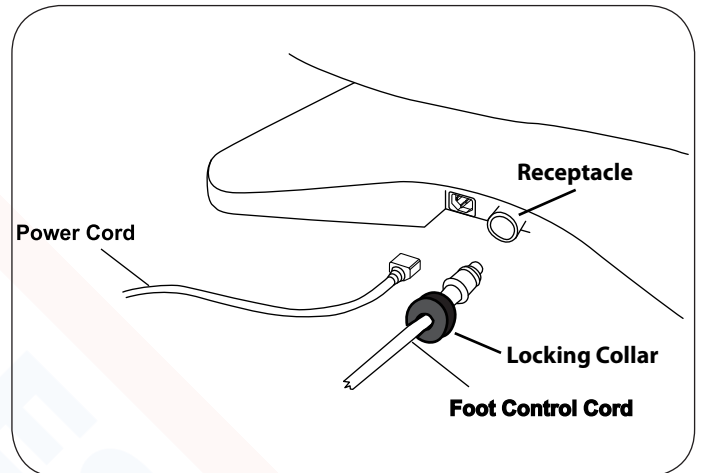

Figure 6. Power Cord & Foot Control Cord Receptacles
2. Plug the female end of the power cord into the receptacle on the table (Figure 6). Make sure the plug end shape is correctly oriented to the receptacle shape. Plug the male end of the power cord into a 115 Volt grounded receptacle.
2. Insert the cord into the foot control receptacle on the table (Figure 6). Make sure the tab on the plug is aligned with the groove in the receptacle, and the plug is fully seated.